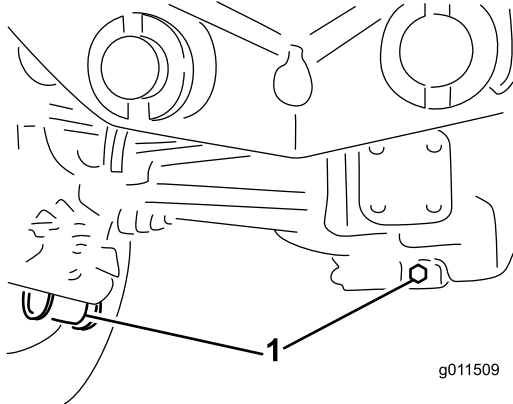

Figure 108
2. Clean the area around the 3 drain plugs; 1 on each end and 1 in the center (Figure 108).